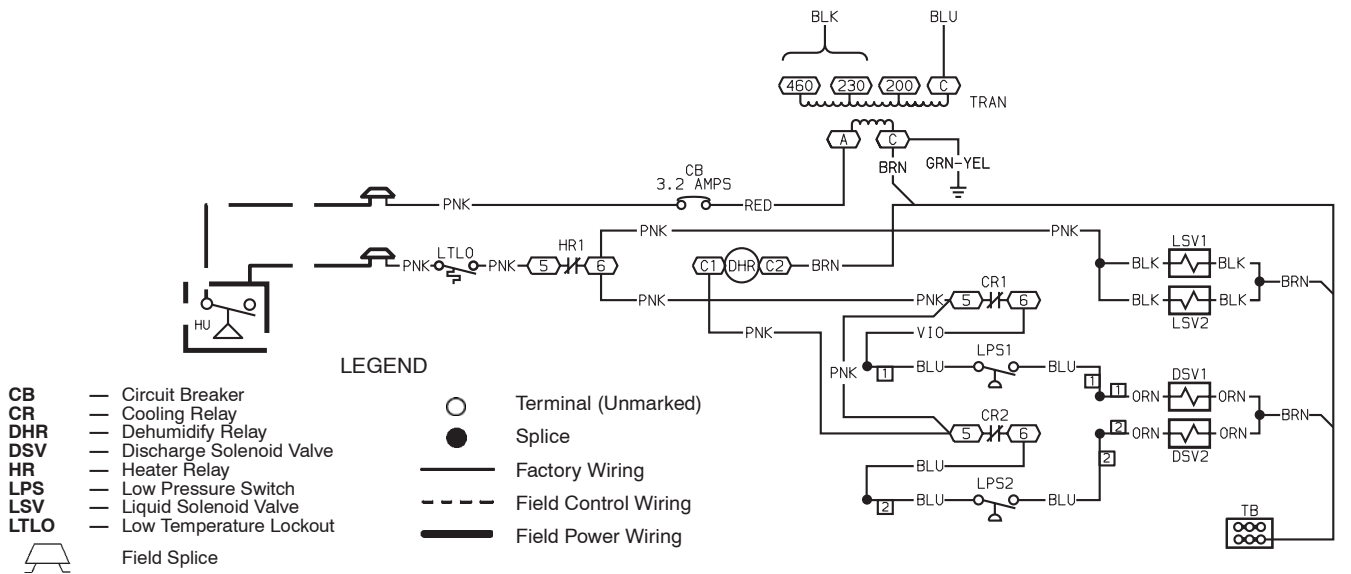

Fig. 15 – Typical Perfect Humidity™ Adaptive Dehumidification System Humidistat Wiring (208/230-V Unit Shown)
3. Use a wire nut to connect humidistat cable into low-voltage wiring as shown in Fig. 15.